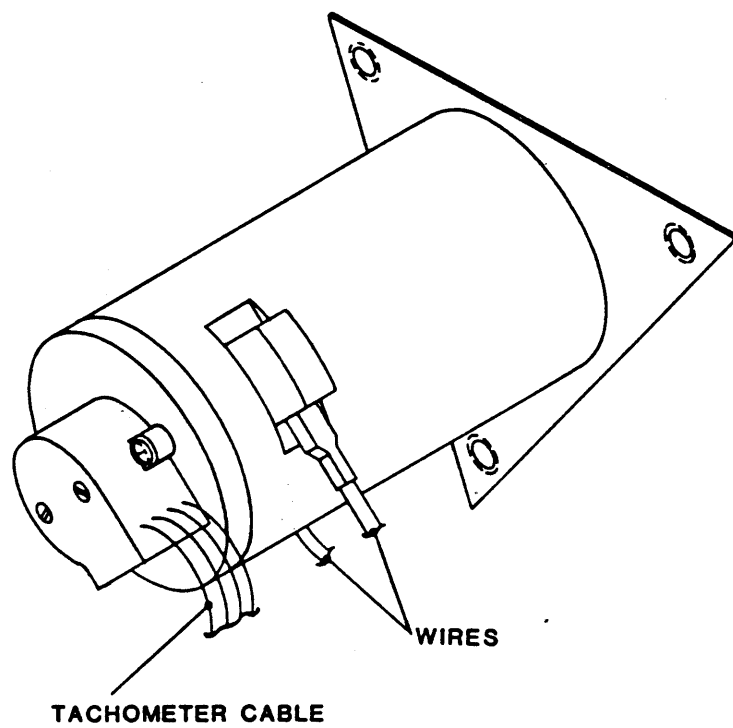

Figure 4-20 Capstan Motor Assembly
4.3.24 CAPSTAN MOTOR ASSEMBLY (Figure 4-20)